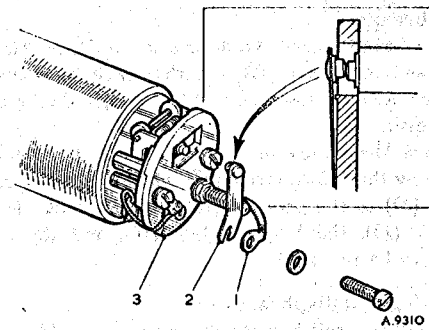

Fig. 10. Setting the correct relative position of blade and rocker contact points
21. Fit the contact blade (2) (Fig. 10) and coil lead (1) to the pedestal (3) with the 5 B.A. washer and screw. When a condenser is fitted the tag on it is placed under the coil lead tag.
22. Adjust the contact blade so that the contact points on it are a little above the contact points on the rocker when the points are closed (see Fig. 10), also that when the contact points make or break, one pair of points wipes over the centre line of the other in a symmetrical manner. As the contact blade is provided with a slot for the attachment screw, some degree of adjustment is possible.